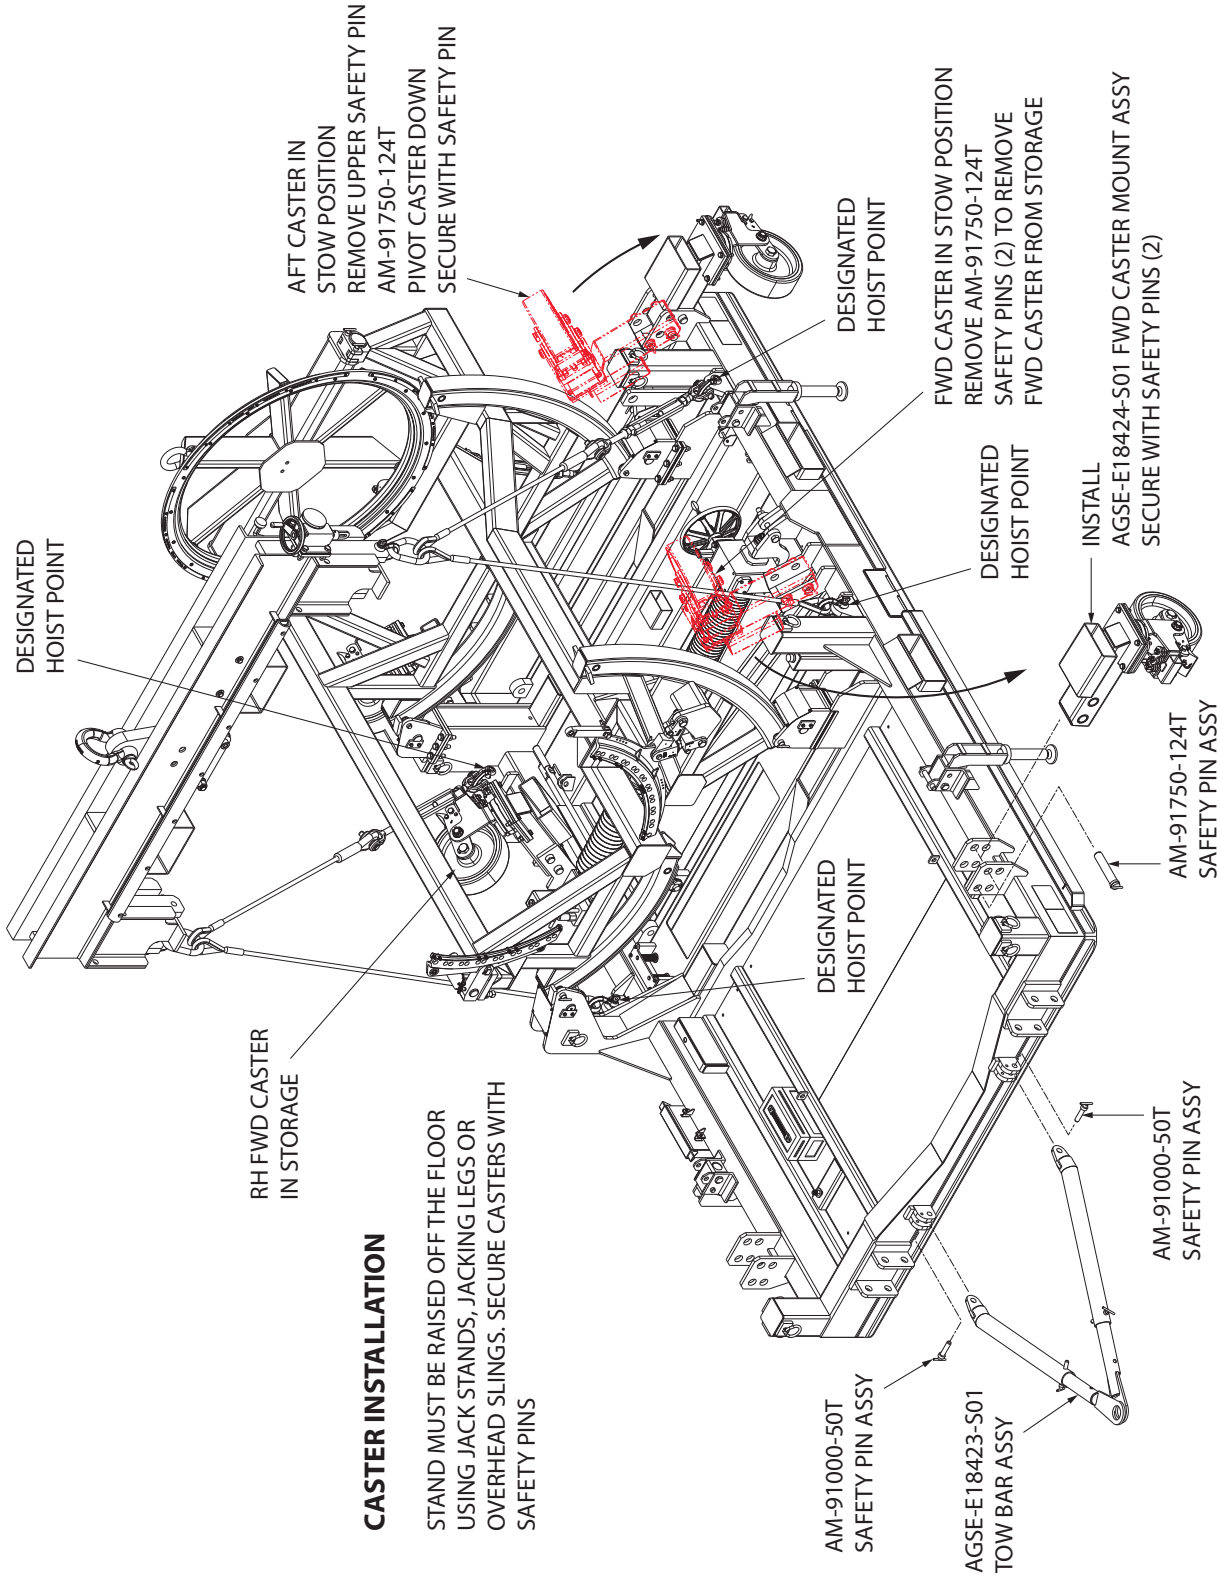

Figure 5.6-1 Caster and Tow Bars Installation
5.6 Casters and Tow Bar Installation and Usage (Figure 5.6-1)